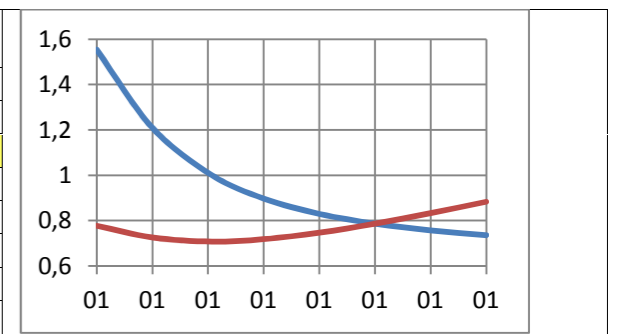
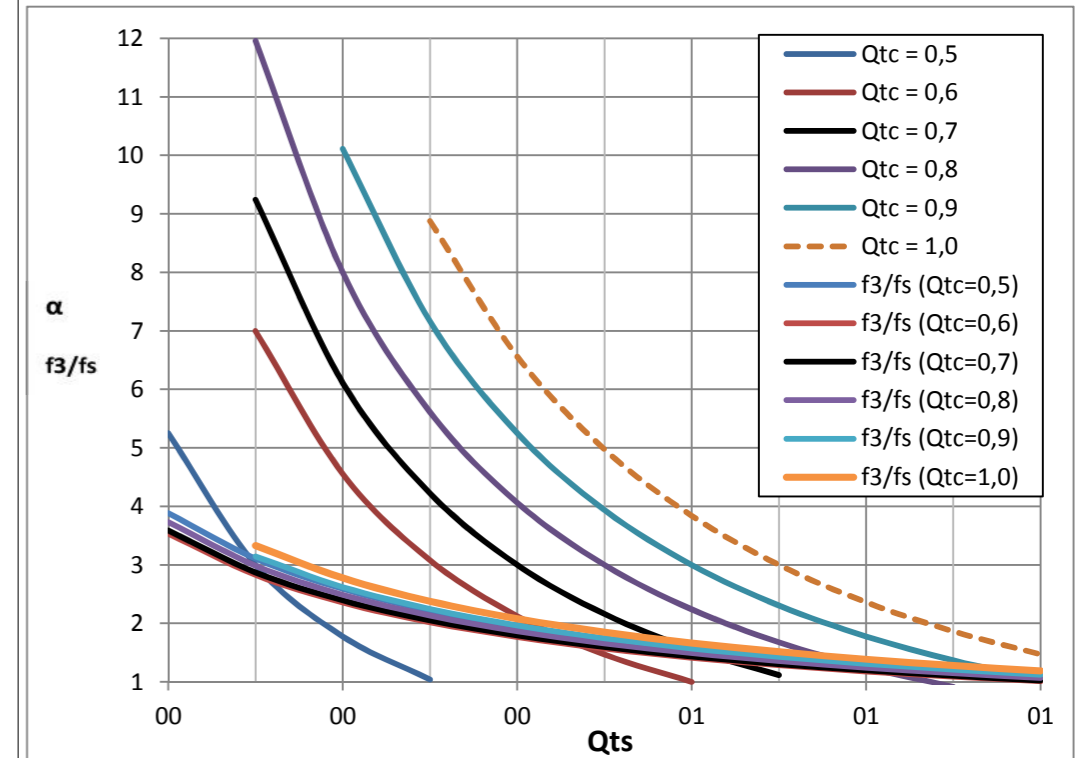

Figure 4.  $f(Q_{tc})$  (blue line) and  $f(Q_{tc}) \cdot Q_{tc}$  (red line) as a function of  $Q_{tc}$
Figure 5.  $\alpha = V_{AS}/V_B$  and  $f_3/f_s$  (curves close together) as functions of  $Q_{ts}$  and  $Q_{tc}$
It is apparent from figure 4 that picking a  $Q_{tc}$  in the interval 0,6-0,8 yield the lowest  $f_3$ . If we now use an element with  $Q_{ts}$  in the interval 0,3-0,5 we will get a moderately large box ( $Q_{ts}$  closer to 0,3) and a good base response with low  $f_3$  ( $Q_{ts}$  closer to 0,5), figure 5.
It is apparent from figure 5 that a suitable speaker element for a closed box design should have
- $V_{AS}$  should not be to large depending on selection of  $Q_{ts}$ . Small  $Q_{ts}$  put less demand on small  $V_{AS}$  than if  $Q_{ts}$  is larger, see figure 5.